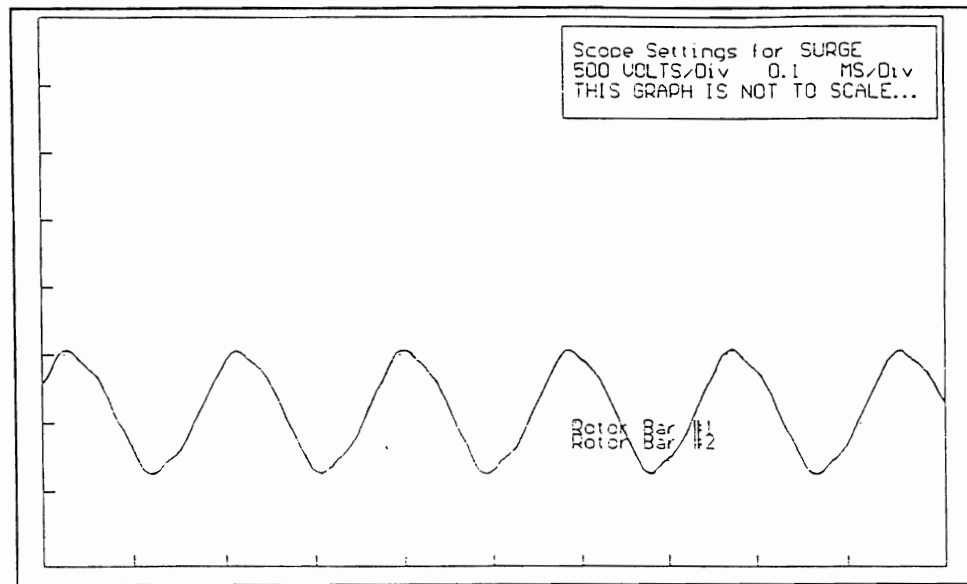

Figure 1. Typical Rotor Test Pattern
3. Adjust the SWEEP control 2 to 4 clicks counter-clockwise from the 500us position (G), to get the horizontal peak-to-peak separation spread over a few divisions. About 3 or 4 full cycles should be displayed on the screen.
8. Observe the superimposed waveforms for any differences or separation. Refer to Section 2.3 for waveform analysis. Figure 1, shows the typical pattern displayed on the CRT for the rotor test.
Figures 1, 2, and 3 show the saved patterns superimposed for documentation. In either case a dynamic change in the waveform, displayed as real-time motion in the first case, or separations of superimposed patterns in the second, indicates a faulted rotor.